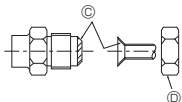

Fig. 4-1
Ⓐ (Fig. 4-1)
Ⓑ (Fig. 4-1)
4.2. Vannrørtilkobling (fig. 4-1)